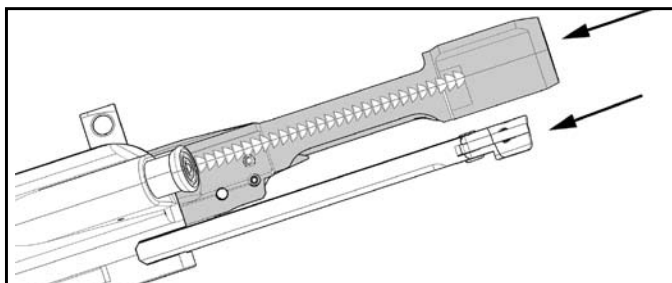

Fig. 63 – Installing the bolt assembly into the upper receiver
- g. With the upper receiver and charging handle upside down, install the bolt assembly onto the bottom of the charging handle ensuring that the bolt carrier's anvil and the top of the cam pin are centered in the bottom cavity of the charging handle (Fig. 63).